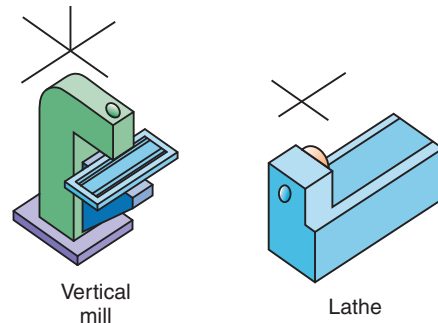

Figure 17-16 Identify the axis set using the right-hand rule.
- On a sheet of paper, using the right-hand rule, complete the orthogonal set for the sketch in Fig. 17-16.